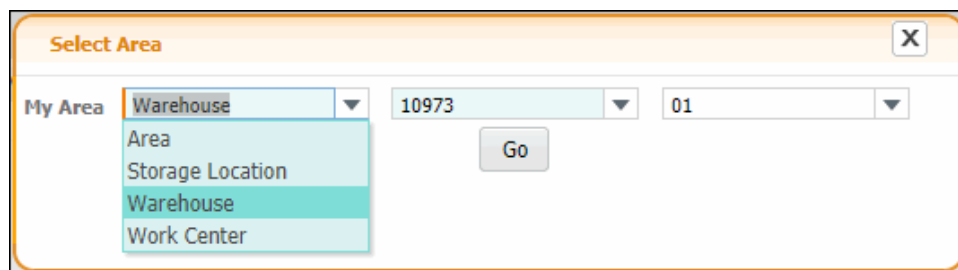

Figure 2.4 Pop-up screen to define My Area
3. The different types of Areas that could be identified are as follows: Area, Storage Location, Warehouse and Work Center. See Figure 2.4.